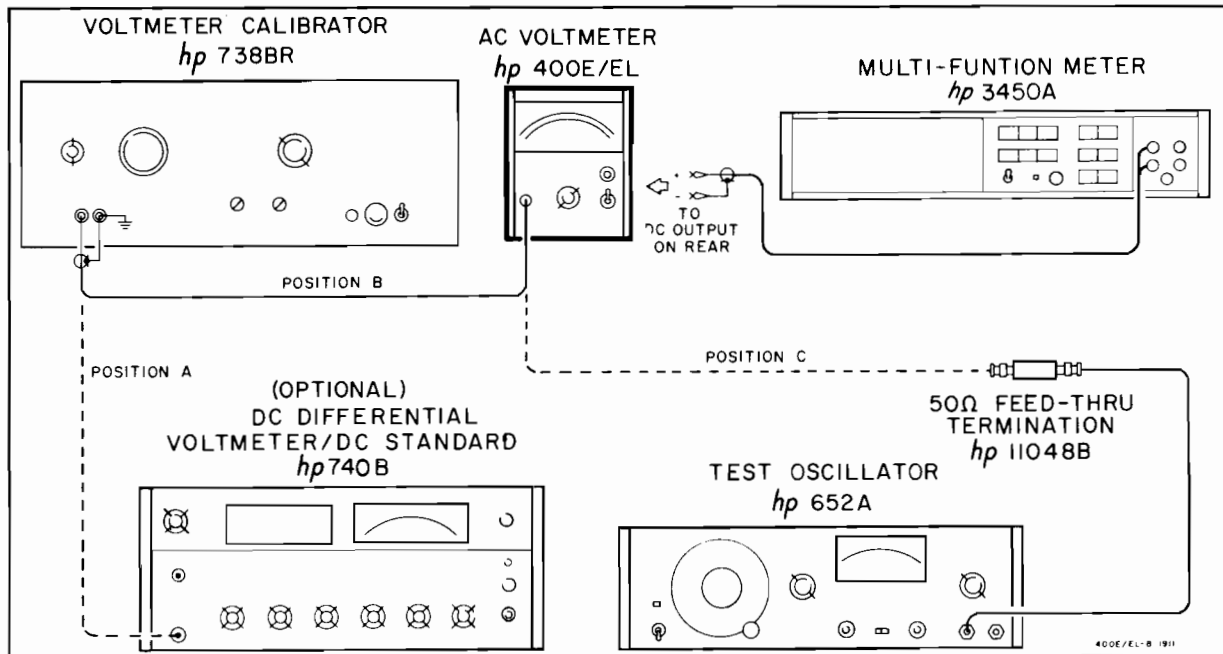

Figure 5-5. Alternate Calibration and Frequency Test Setup
- a. Connect the circuit as in Figure 5-5 position A. Place the ac differential voltmeter to 300 volts (maximum sensitivity) and place the calibrator to 400Hz rms, 300 volts.
- c. Connect the circuit as in Figure 5-5 position B. The 400E/EL should read 300 volts \pm 1% or \pm 3 volts. The dc output should be .949 \pm 0.0047.
- d. Change the calibrator and ac differential voltmeter to 100 volts. Connect as in Figure 5-5 position A. Adjust the AC INTERNAL CALIBRATION for an exact reading on the differential voltmeter.
- i. Connect the circuit as in Figure 5-5 position C.
- n. Repeat steps h thru m for descending ranges at full scale and 1/3 full scale using the appropriate tables for tolerances. Below 50mV do not use Figure 5-5 position A as the calibrator is more accurate than the differential voltmeter at these low voltages.